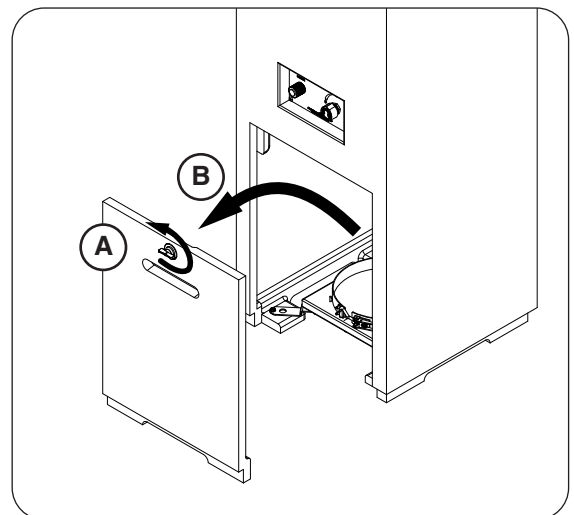

Fig. 17-2 Remove door
1. Remove the storage door by first turning the door handle counter-clockwise, then carefully pulling the door outward (see Fig. 17-2). Store in a safe location.